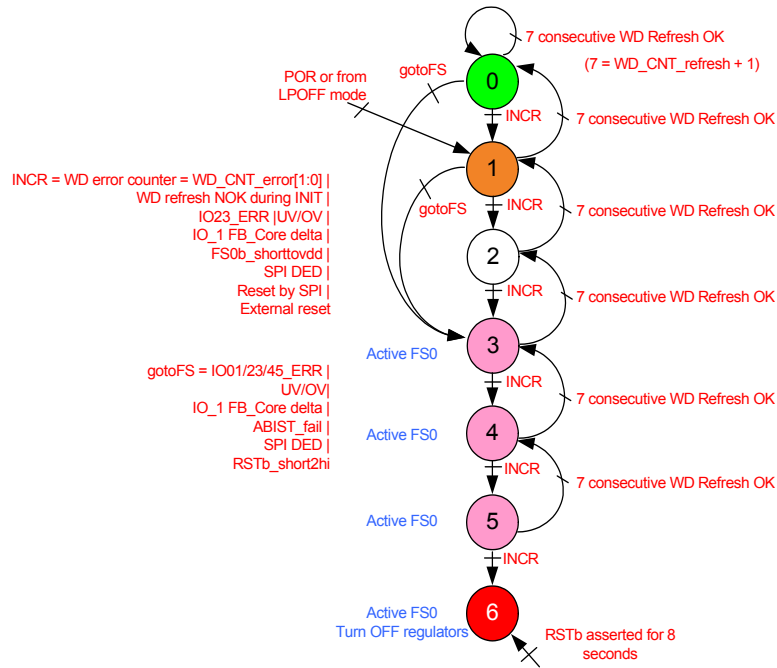

Figure 19. RSTB error counter (RSTB\_err\_FS = 0)
- RSTB\_err\_FS = 0 / Intermediate = 3; Final = 6 (Figure 19). When reset error counter reaches 6, the device goes into deep reset and fails.